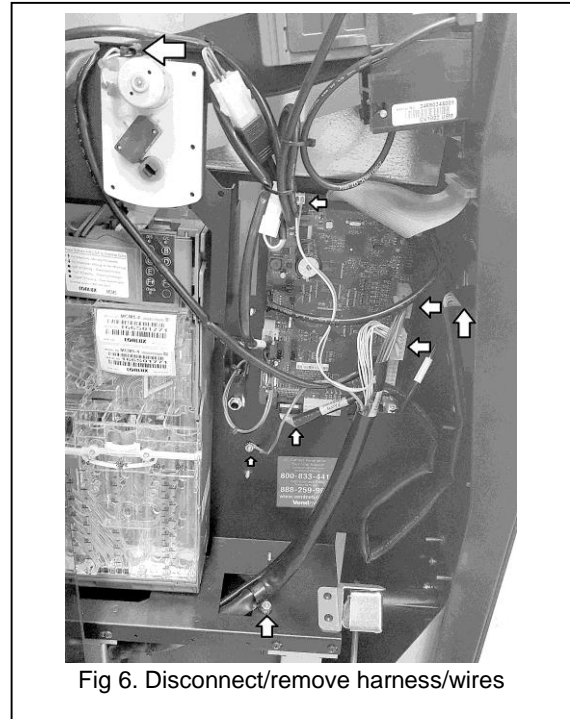

Fig 6. Disconnect/remove harness/wires
3. Remove/disconnect the (8) 'P' Clamp and harness connections as shown in Fig 6.